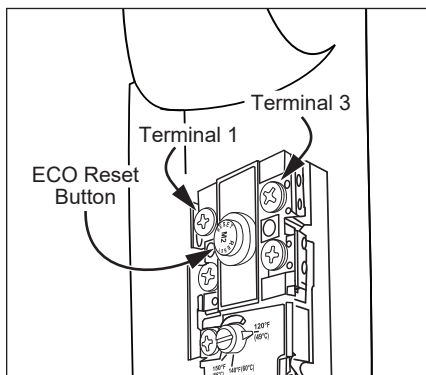

Figure 36 - Energy Cut Off (ECO) Button.
3 Check the Top Two Screws of the ECO Using a Non-Contact Circuit Tester and Confirm that Power is OFF (screw terminals 1 and 3 shown in Figure 36).
that Power is OFF (screw terminals 1 and 3 shown in Figure 36).
- Press the red ECO reset button (Figure 36).